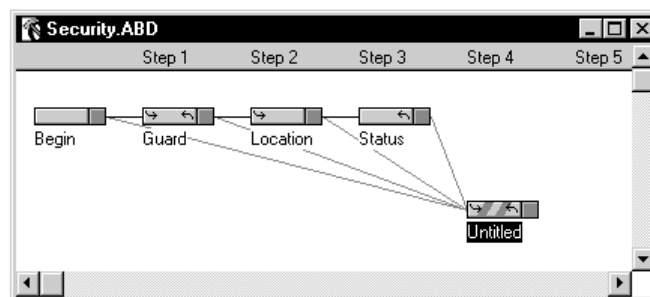

Figure 4-11 Selected Input Handler is Detour Handler
13. The selected Input Handler now appears with stripes to indicate that it is a Detour Handler (Figure 4-11).